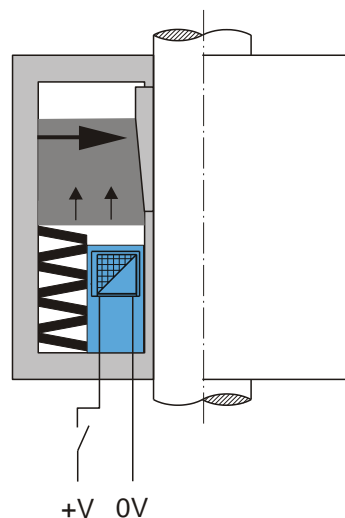

Fig. 2 Clamped piston rod on disconnection of the coil nominal voltage
- ☐ The spring acts on the clamping element of the brake by switching off the voltage. The piston rod is clamped (Fig. 2).